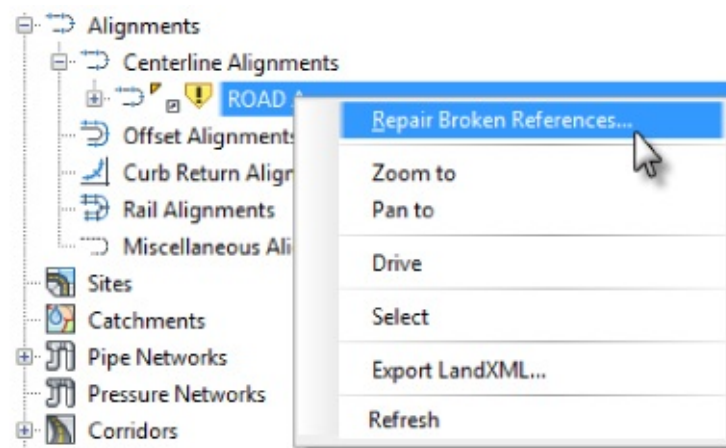

Figure 16.19 Choosing Repair Broken References
16. Right-click ROAD A and select Repair Broken References, as shown in Figure 16.19.